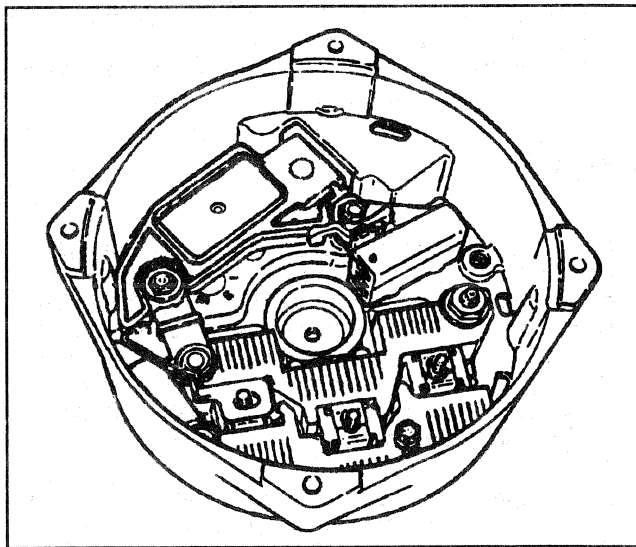

Figure 8—Slip Ring End Frame with Stator Removed
4. Brush holder, regulator, and connector from the end frame (Figure 8).